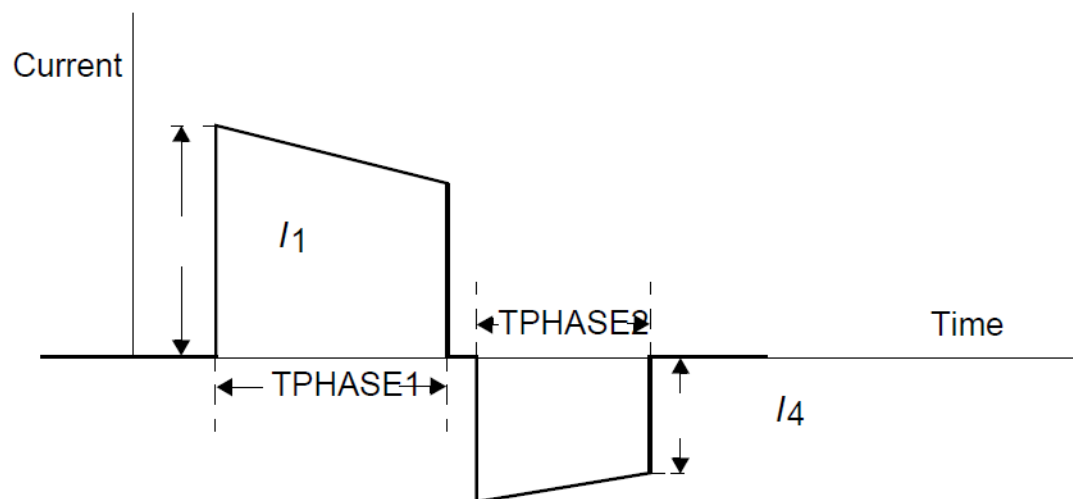

Figure 2.10—Output waveform specifications
6. Verify that the waveform meets the specifications as shown in the following Figure 2.10 and Table.